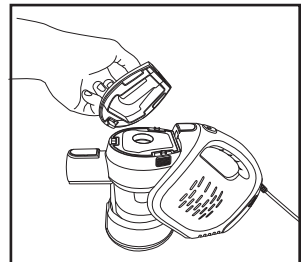

Fig. 3
5. Replace the top cover by lining up the tab in the front and pressing down on the cover until it clicks into place (Fig. 3).